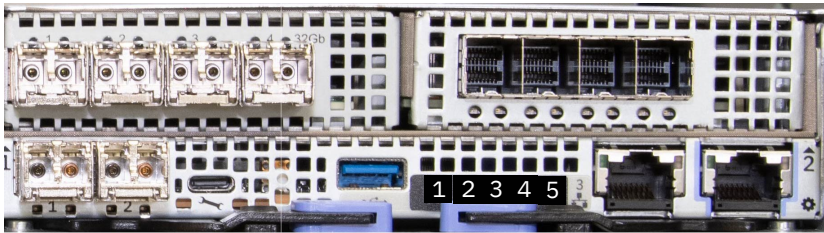

Figure 56. Canister power LED location
3. Wait for the shutdown operation to complete. When complete, the power LED on each node canister, which is shown in Figure 56 on page 105, blinks at a 1 Hz rate (slow flash). Refer to the LEDs page for details.